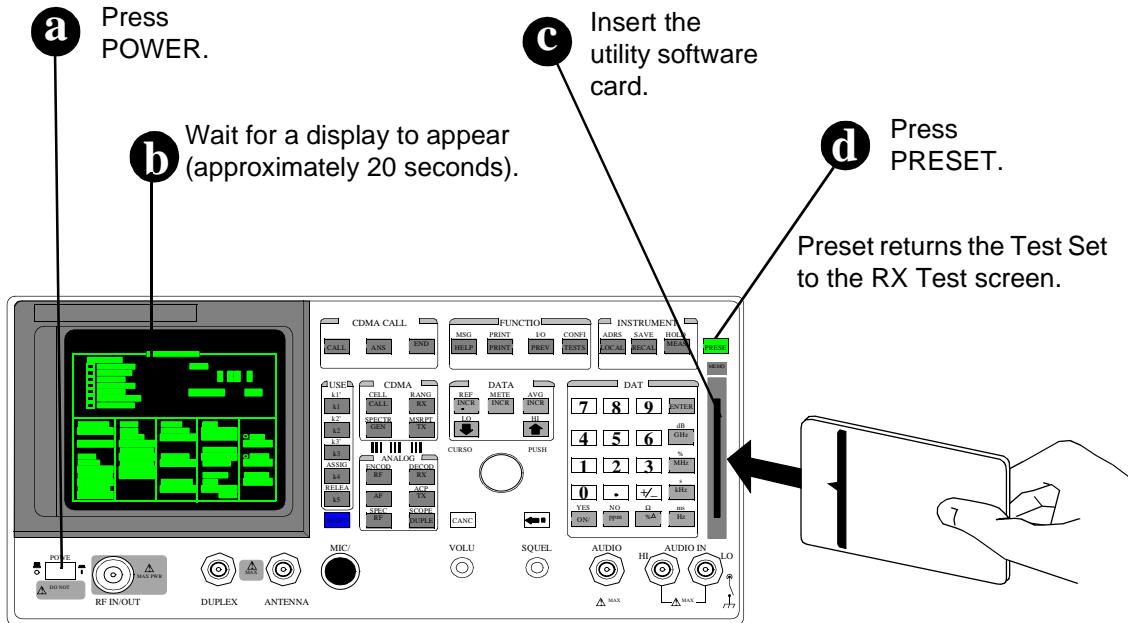

Figure 21 Turning power on and inserting the memory card.
- 4 To prepare the Test Set for running the connectivity test, perform the steps shown in figure 21.